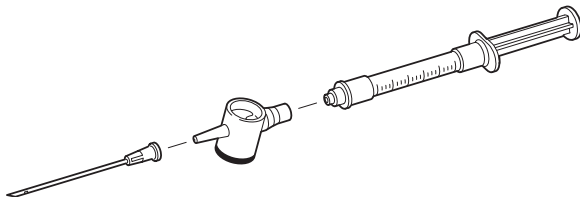

Figure 1
4. Remove the cap on the pre-filled syringe, and screw the syringe onto the remaining chamber stem. Be careful not to contaminate the fluid pathway. See Figure 1.